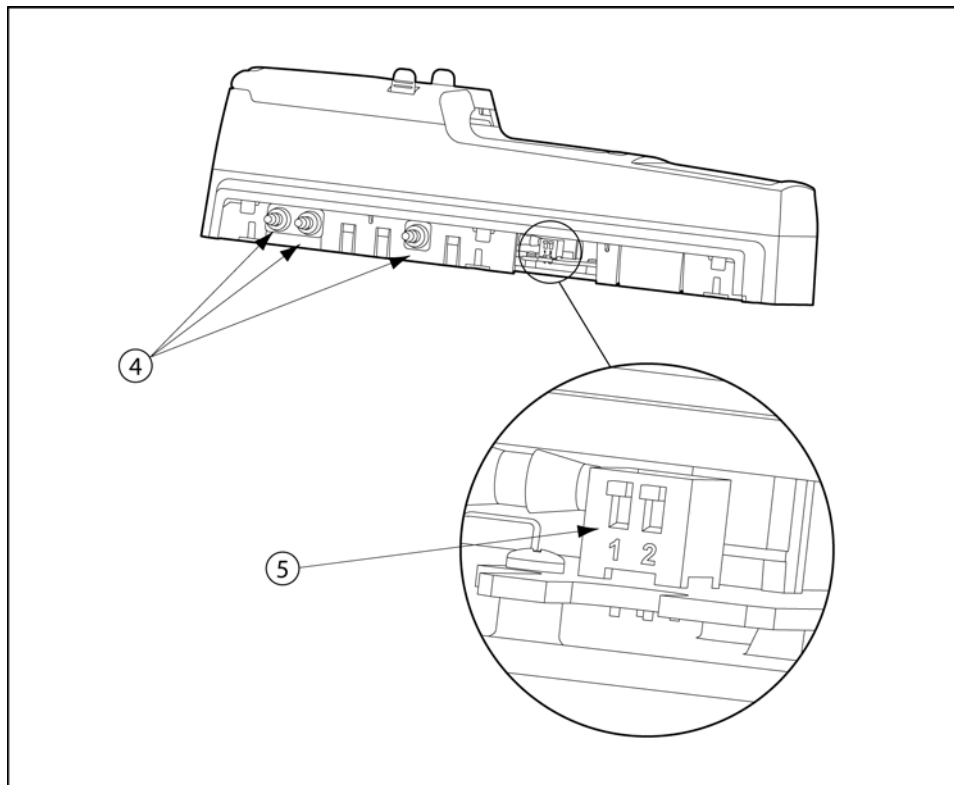

Figure 17. Changing Dip Switch Settings
5. Reconnect the GasAlertClip Extreme docking module. Refer to Figure 17.